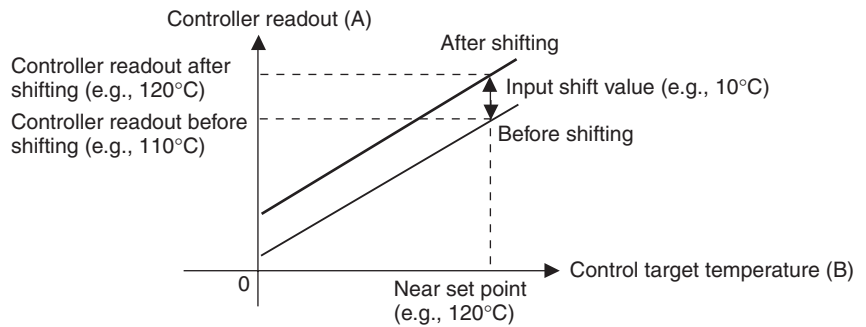

Figure 2 Illustration of 1-Point Shift
2. Check the thermometer temperature (B) and the Controller readout (A). Subtract the Controller readout temperature (A) from the thermometer temperature (B), and set $\bar{L}NSL$ and $\bar{L}NSH$ to the result as the input shift value. The shift is illustrated in *Figure 2*.
3. After setting the input shift values, check the Controller readout (A) and the thermometer temperature (B). If they are almost the same, this completes shifting the temperature input.